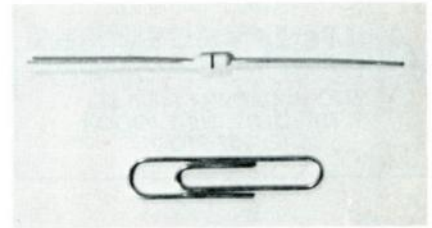

FIG. 1: Zero-ohm resistor
A. It's a jumper wire surrounded by a composite body in the shape of a resistor (see Fig. 1); this keeps the wire up off the circuit board to avoid shorts to traces below. The body has a single black color-code stripe, indicating zero resistance—hence the name.